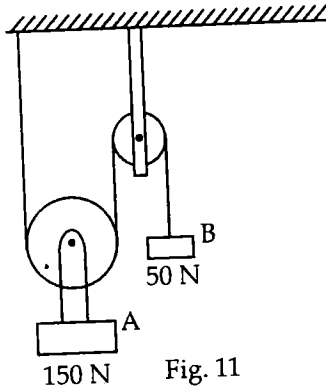

Fig. 11
8. (a) Determine the tensions in the strings and accelerations of blocks A and B weighing 150 N and 50 N connected by a string and a frictionless and weightless pulley as shown in fig.11. 7+7